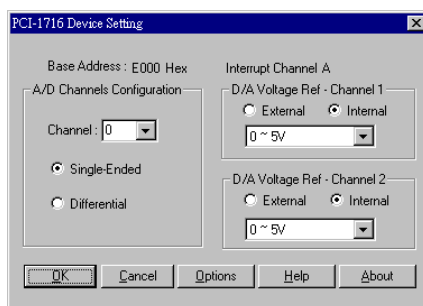

Figure 2-7: The Device Setting dialog box
Step 4: On the *Device Setting* dialog box (Figure 2-7), you can configure the voltage source either as External or Internal, and specify the voltage output range for the 2 D/A channels.